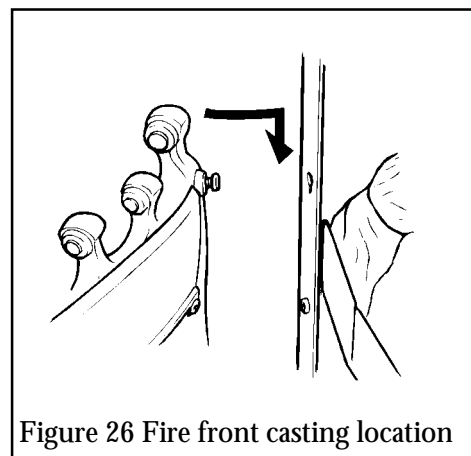

Figure 26 Fire front casting location
12.1 All models except black & chrome front casting Fit the fire front casting to the front surround. Locate the two screw heads at the rear top corners of the casting through the keyhole slots at the inner sides of the surround. If the screw heads do not project enough or project too far, the screws can be adjusted. Lower the casting so that it rests on the hearth (see figure 26).